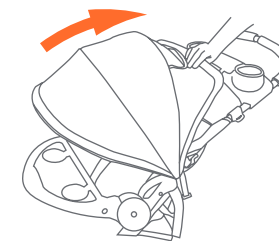

Fig. 9
- To fold the canopy: pull backwards on the front edge (Fig. 9).